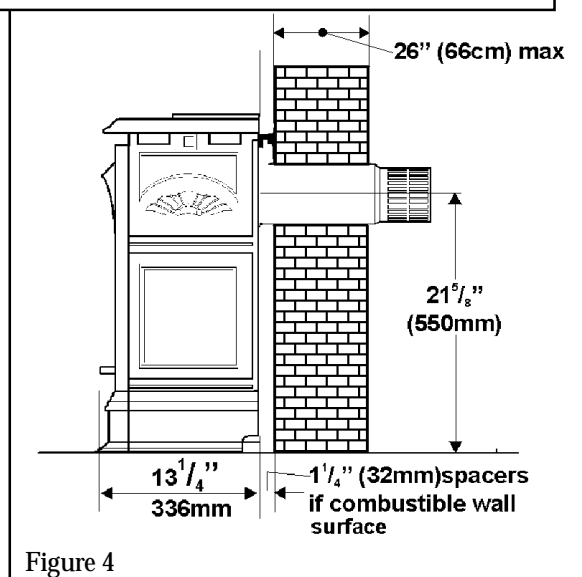

Figure 4
The location requirements are shown in figure 4.
*The horizontal vent run can not be extended beyond the dimensions shown in figure 4 by the use of any extra accessory pipes.*